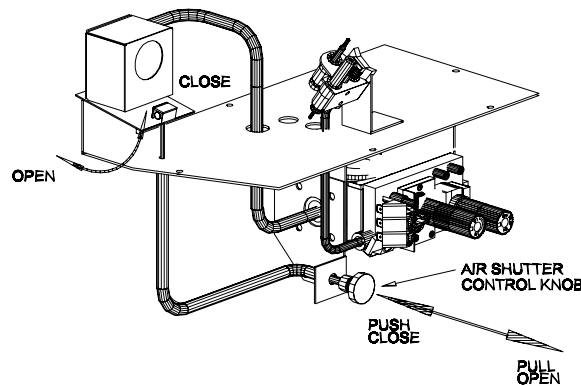

FIGURE 15: Air Shutter Adjustment
7. Install pilot orifice thimble #05-04-00036 (.014") see Figure 15 for location. Remove and install pilot hood with 7/16" open-end wrench. (Pilot orifice thimble is located inside pilot hood base).